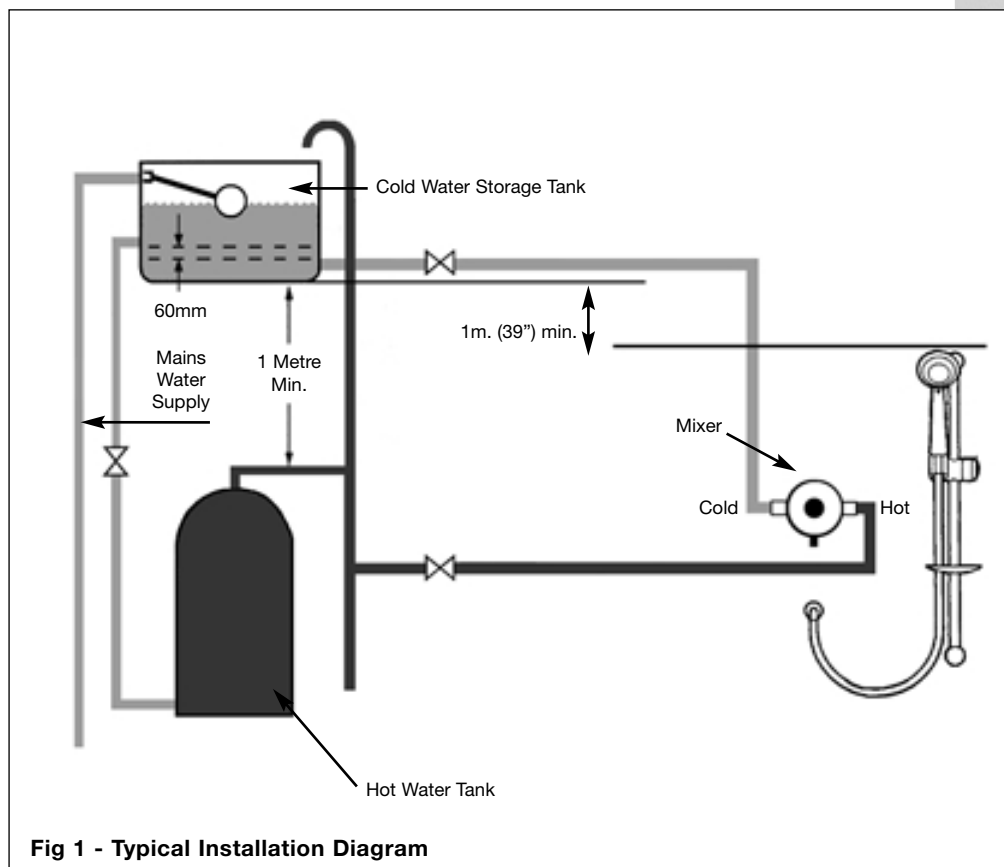

Fig 1 - Typical Installation Diagram
- Make your connection into the hot water supply from the cylinder ensuring that it is the first draw off below the expansion pipe tee. (Fig. 1).
- The cold water should be taken directly from the cold water storage tank and must be positioned 60mm below the cold connection to the hot water cylinder, Fig 1.